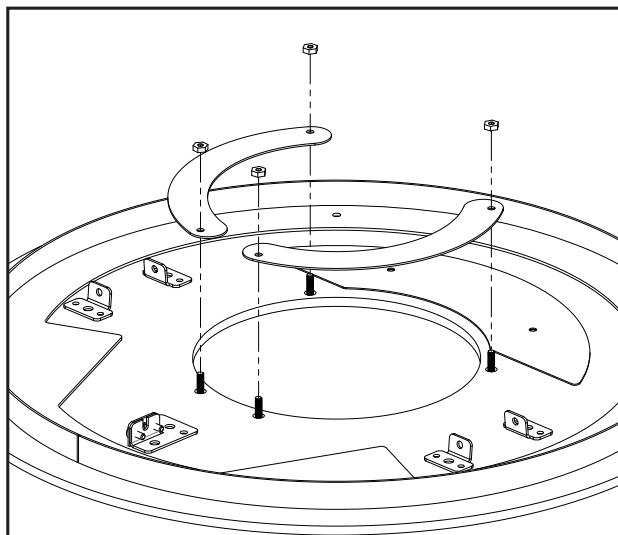

Figure 76: Top Plate Blank Supports
13. Install the two top plate blank supports and nuts (included in the manual bag) on the four (4) studs underneath the top plate (see Figure 76).